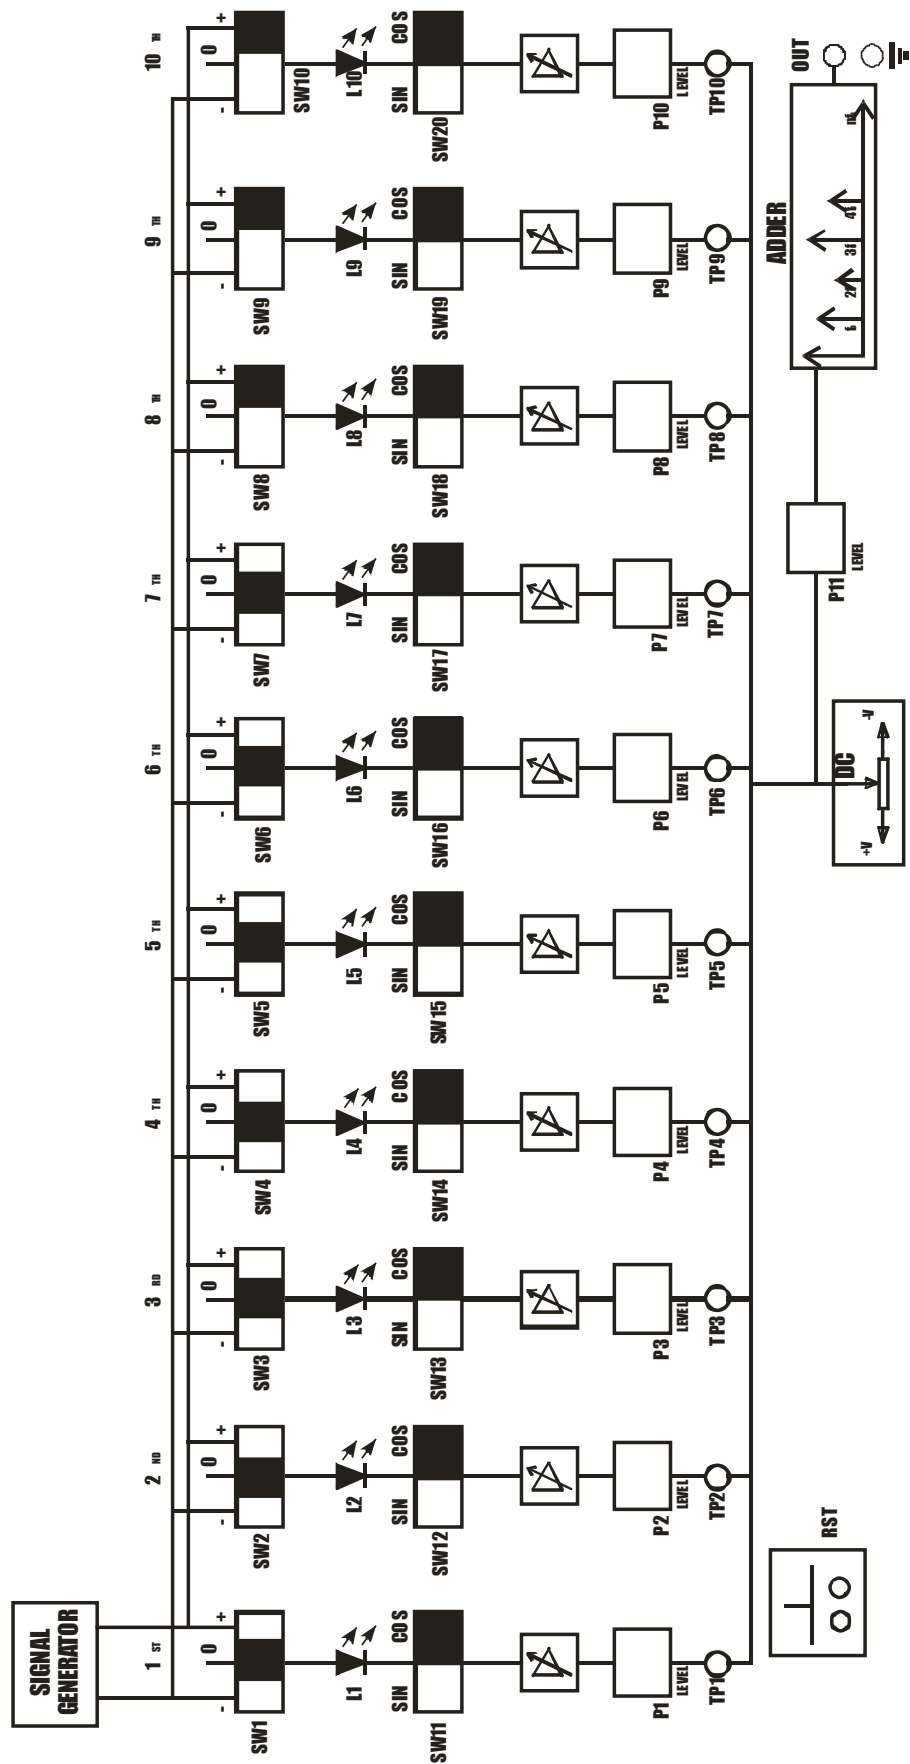

FIG. 4.1
- by referring fig 4.1, set harmonics (8^{th} , 9^{th} and 10^{th}): three-way switches “-/0/+” on “+” and two-way switches “sin/cos” on “cos”